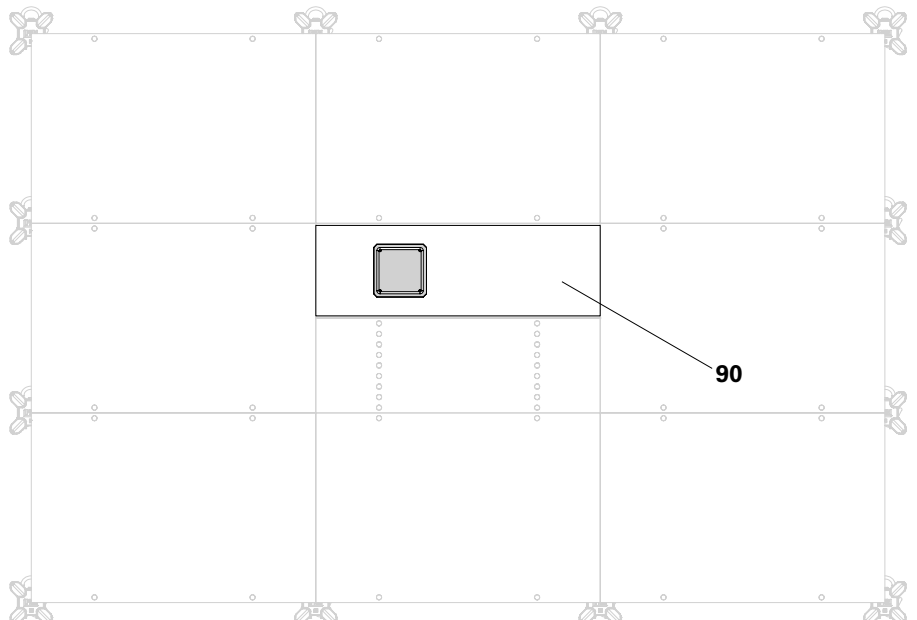

Fig. D3.09
10. Continuously fill the compensation area with 18 mm filler plates (**90**), and secure them on the square timber from the top with nails. (Fig. D3.09)